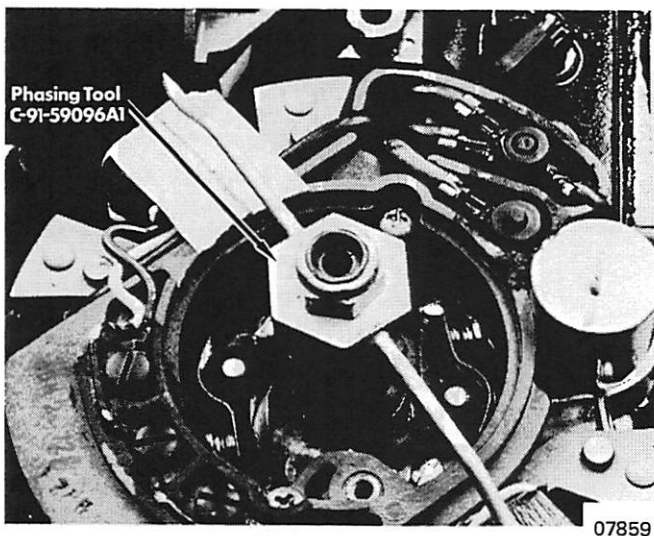

Figure 3. Marking Pointer Location
- (1) Place contact housing in full throttle position.
- (2) Gap both sets of points to .020" on high side of cam. Lock points.
- (3) Install Phasing Tool C-91-59096A1 onto crankshaft. Install flywheel nut to lock Phasing Tool in position.
- (4) Remove white lead and brown lead from coils.
- (5) Connect Magneto Analyzer (C-91-25213) from white lead to ground. Place Analyzer on scale No. 3.
- (6) Turn crankshaft in clockwise direction until No. 1 set of points just closes.
- (7) Place masking tape under pointer of Phasing Tool and mark pointer location on tape. (Figure 3)